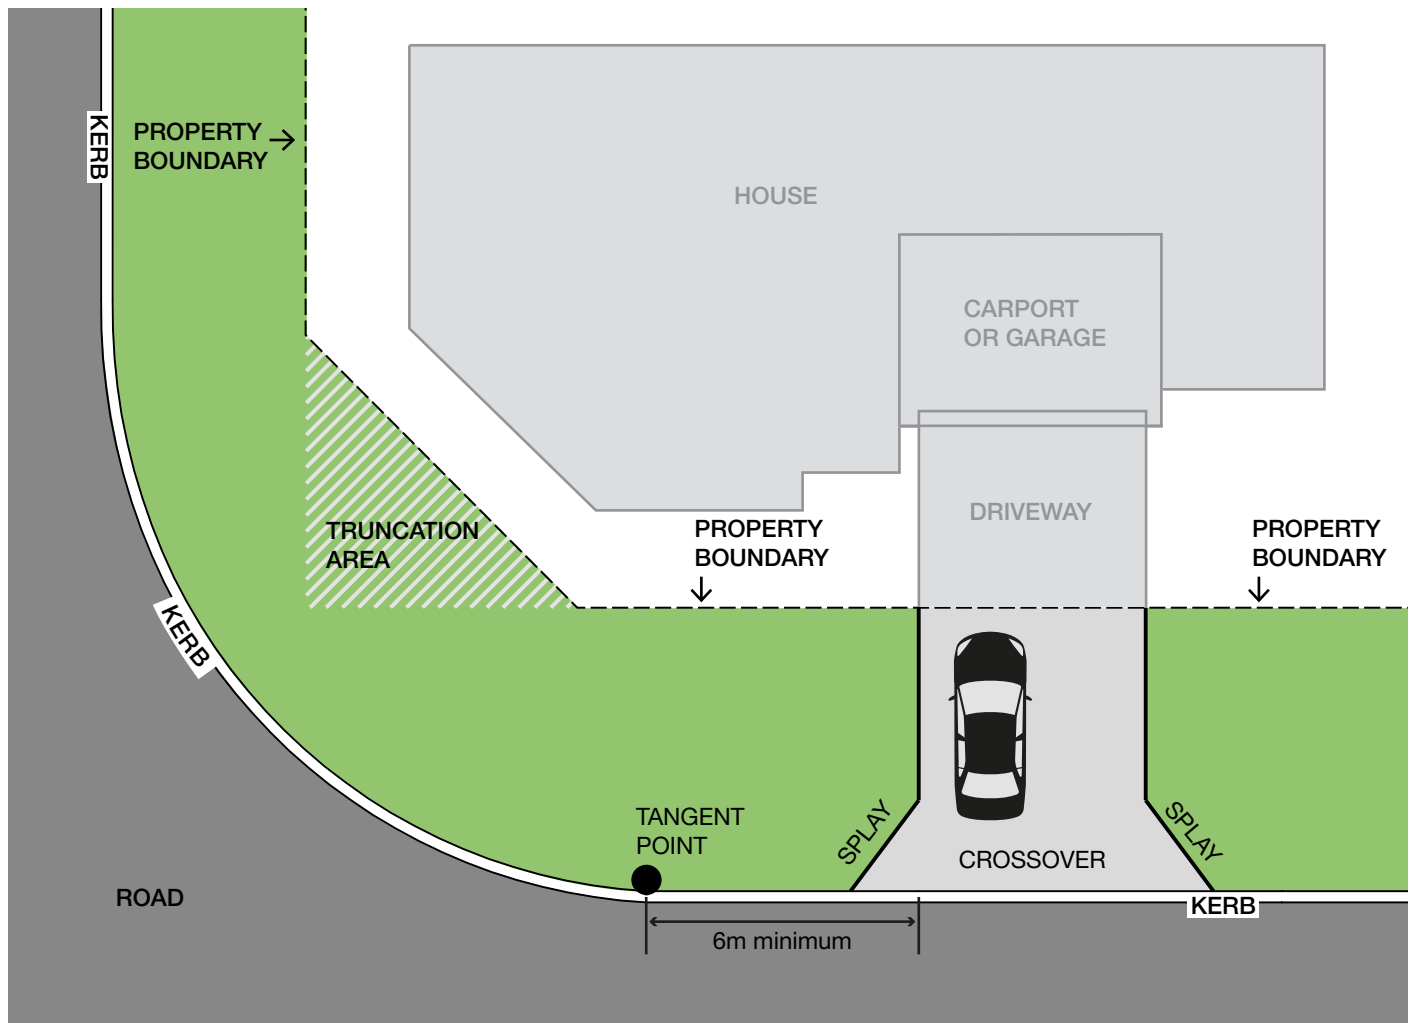

FIGURE 1: Permitted location of a residential crossover at an intersection.
- ii. No closer than 6.0m to a street corner or the point at which the kerb line begins to curve as seen in Figure 1. Crossovers and splays are not permitted within the truncation area (B in figure 1).